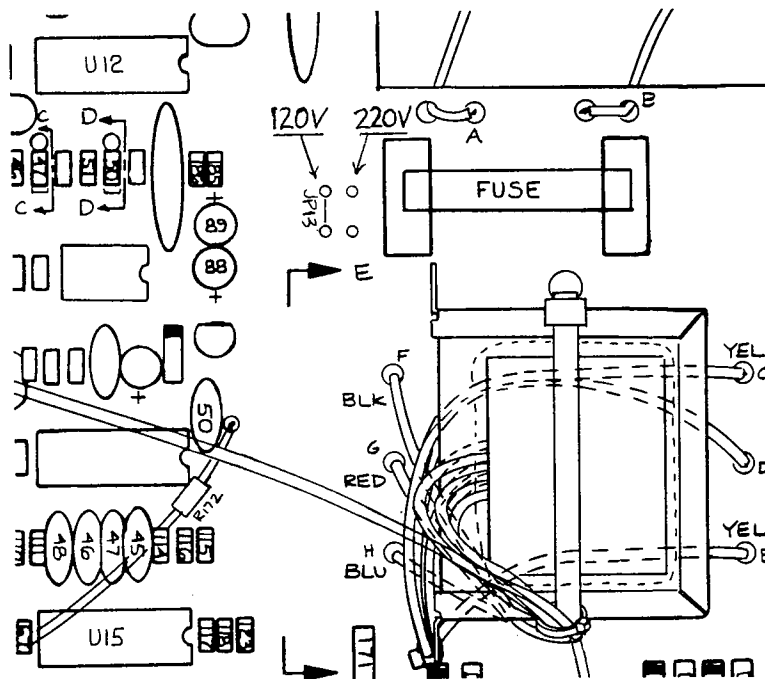

Figure 1
1. Locate the jumper wire at the left hand side of the fuse (see Fig. 1).